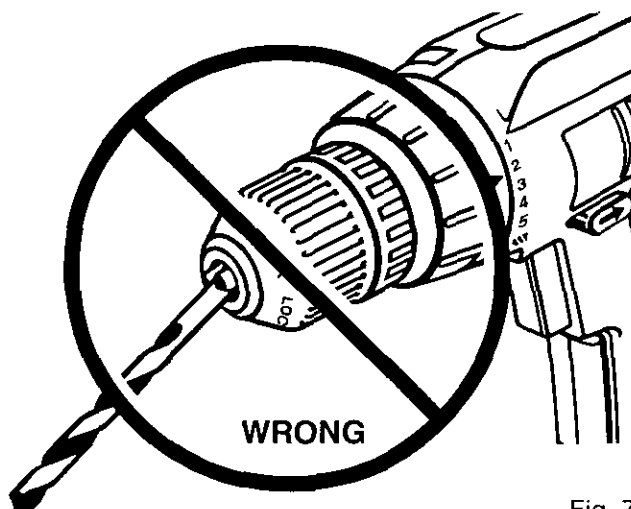

Fig. 7
**WARNING:** Do not insert drill bit into chuck jaws and tighten as shown in figure 7. This could cause drill bit to be thrown from drill resulting in possible serious personal injury or damage to the chuck.